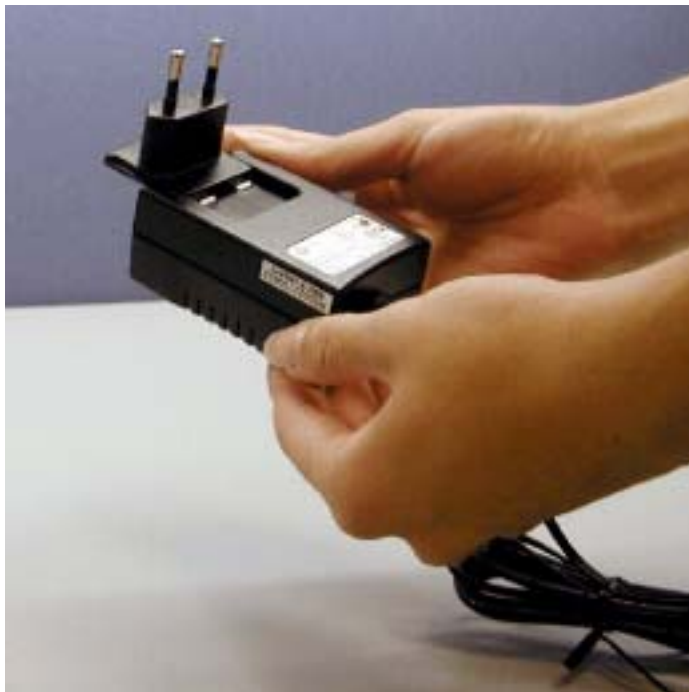

Figure 17. Inserting a New Plug Configuration
4. Push the new plug configuration down until it snaps into place, as indicated in Figure 17.